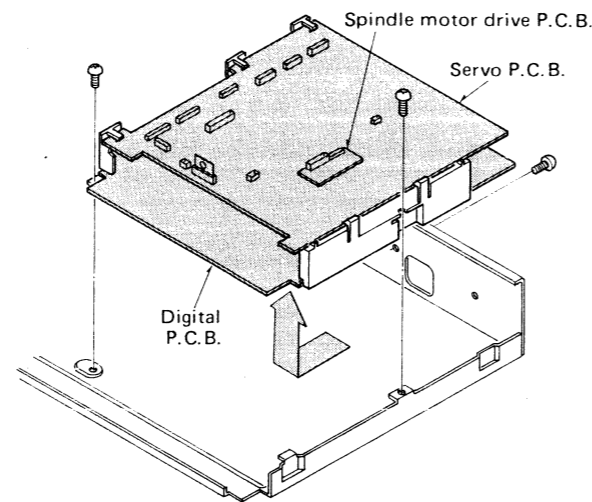

Fig. 30
- (1) Remove the front panel, FL P.C.B. and keyboard P.C.B.
- (2) Remove the P.C.B. holder setscrew. [Fig. 30]